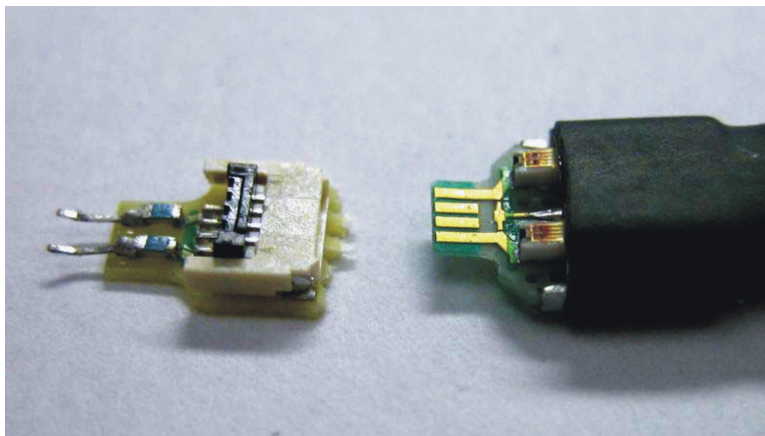
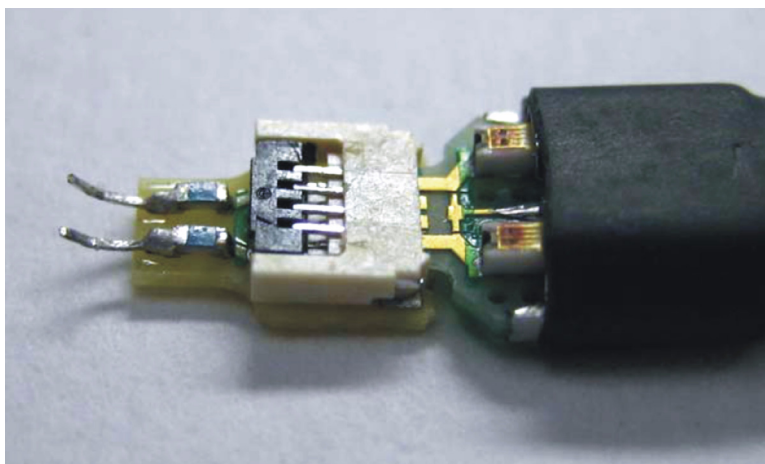
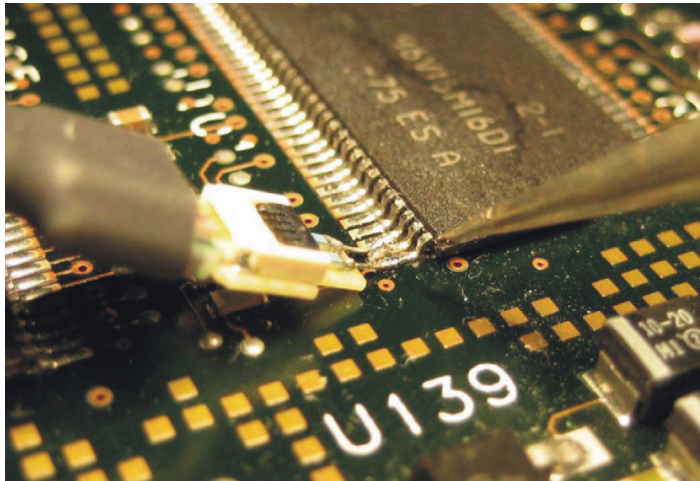

Figure 3-14 ZIF tip (open position) and ZIF probe head
Figure 3-15 ZIF tip (closed position) with ZIF probe head inserted
Figure 3-20 ZIF tip positioned and soldered in place
A close-up of the ZIF tip and the ZIF probe head before the probe head is inserted into the ZIF tip is shown in **Figure 3-14**. Note that lever on the ZIF tip is shown in the open position (pointed up) which allows the insertion of the probe head contacts into the ZIF tip with zero insertion force.
A close-up of the ZIF probe head inserted into the ZIF tip is shown in Figure 3-15. Note that now the lever on the tip is in the closed position (down, rotated 90 degree to the left) which closes the contacts of the ZIF connector.
- 4 Installation of ZIF tip. Connect the ZIF tip to the ZIF probe head as shown in **Figure 3-14** and **Figure 3-15**. This allows the probe to be used as a handle for the ZIF tip to allow positioning in the DUT. Position the lead wires on the target points and then briefly heat the solder joints. There should be enough solder to form a good fillet and enough flux to make the joint shinny. There should not be so much solder that the big solder ball is formed that could cause a solder bridge or overheat the leads on the ZIF tip. This is shown in **Figure 3-20**.